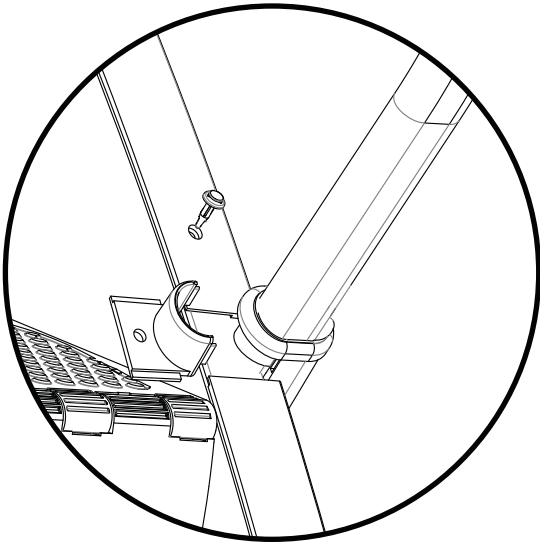

Figure 7A
- 7-1 Attach items #34(Wheel Panel Left) and #35 (Wheel Panel Right) to main frame using hardware item #19. (figure 7A)